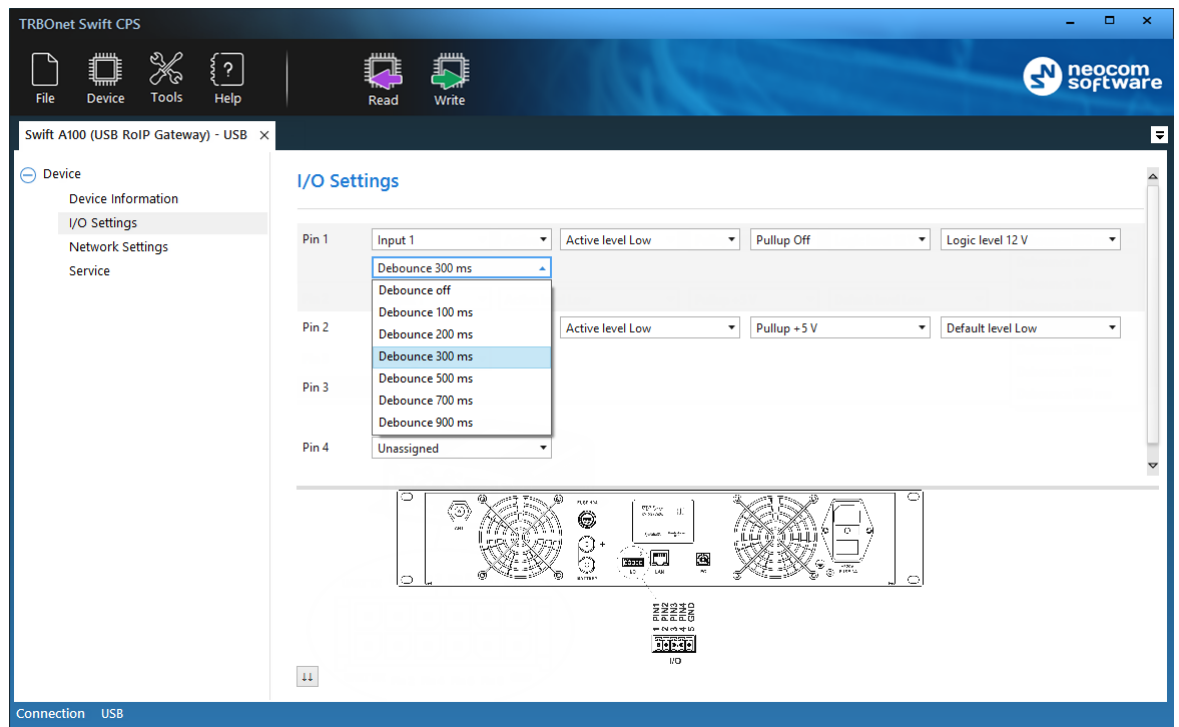

Figure 9: Configuring I/O pins
- In the right panel, configure the I/O pins of A100 gateway that are connected to external hardware (Figure 9). For each connected I/O pin, expand the menu and select the logical pin in TRBOnet:
In the A100 configuration, the physical I/O pins are mapped to the logical pins of TRBOnet (Figure 9).